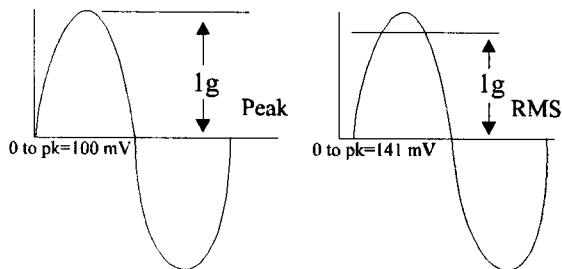

Figure 3. Peak vs. RMS Selection with 100 mV/g Accelerometer
- Peak / RMS selection. If a 100 mV/g sensor is on the shaker table, and the unit is in peak mode, then the output is 100 mV. If the switch is set to RMS, then the output is 141 mV. See Figure 3.